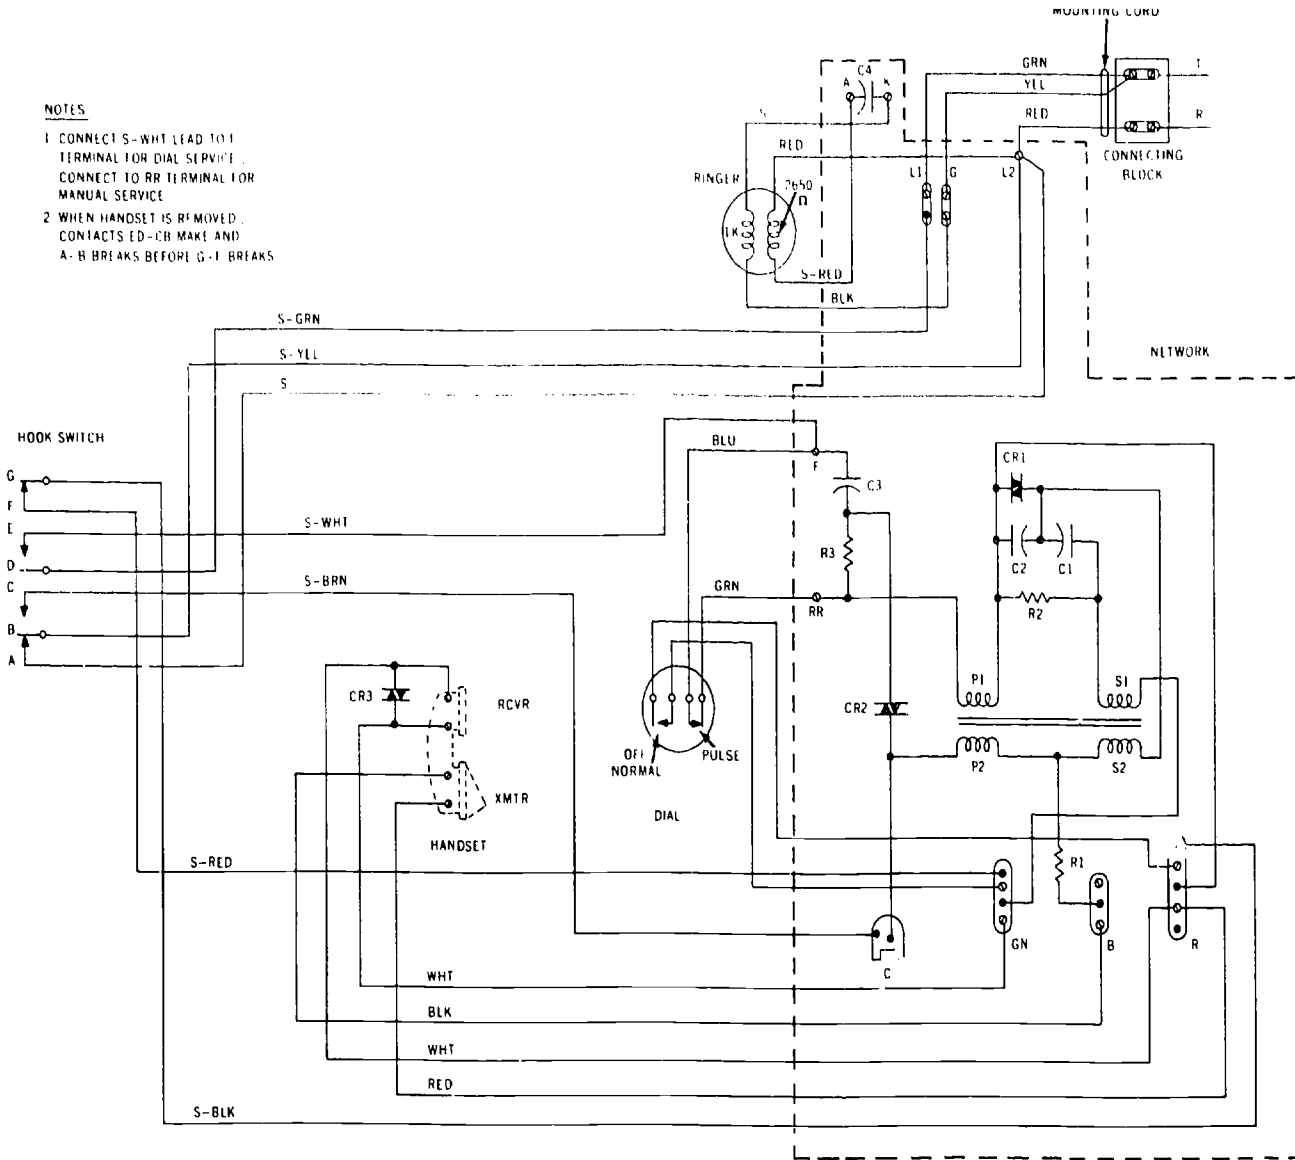
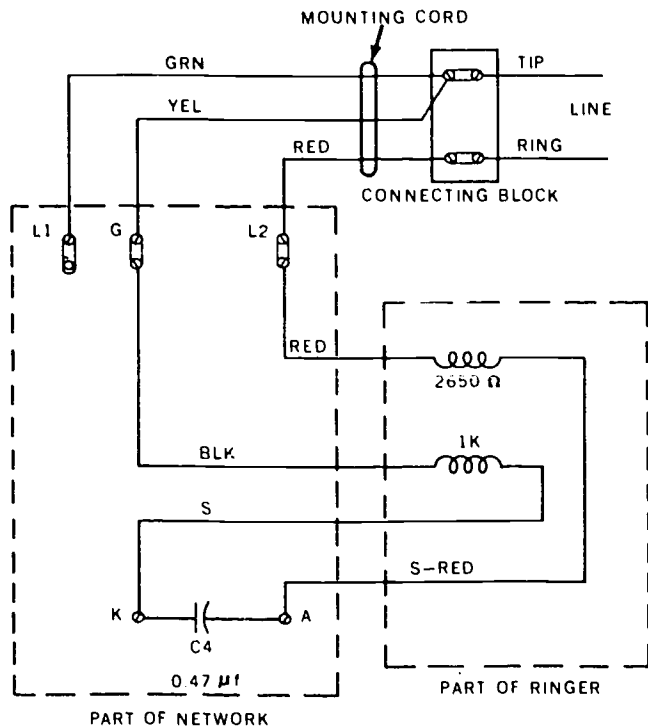

Figure 2-15. Schematic-wiring diagram for 500-type telephone.
Figure 2-16. Ringer circuit schematic diagram.
The circuitry of the 500 telephone includes the ringer, transmitter, receiver, dial, and antisidetone circuits. These five circuits are all included in the wiring diagram illustrated in figure 2-15, which is actually a complete schematic wiring diagram for the 500 telephone. Before we discuss the five circuits, let's mention some general points about the wiring diagram. First, the network parts and terminals are all shown inside a dotted line on the diagram. The terminals, with their identifying letters and numerals, are shown in the same relative positions as they appear on the network itself. The internal parts of the network have been identified with letters and numerals in the illustration. For example, the primary windings of the induction coil are identified as P1 and P2; the secondary windings are S1 and S2. The resistors are identified as R1, R2, and R3; the capacitors as C1, C2, C3, and C4; and the varistors as CR1 and CR2. We point this out because many diagrams don't identify the network parts, since they are not replaceable as individual parts. When it is necessary to identify the network parts, the identifying symbols shown in figure 2-15 are normally used.
Now observe the conductors at the upper right of figure 2-15 identified as T and R. The T and R stand for tip and ring. Tip and ring, as you may recall from the resident course, refer to the lines from the central office, the names coming from the parts of the jack and plug used on the manual common-battery switchboard. The ring side of the line is always connected to negative battery at the central office, and the tip side is connected to positive battery and ground. Thus, in respect to the battery current, the ring side of the line is negative and the tip side of the line is positive. The tip side of the line is connected to ground at the central office except during the ringing period in certain types of ringing systems. (This feature will be further explained along with ringing systems in a later volume.)
4. In figure 2-16, what component attached to network terminals A and K passes the ringing current but blocks DC?
Before the transmitting, receiving, or dialing circuits can operate, the handset must be removed from its cradle. If the handset were removed from its cradle on the set illustrated in figure 2-15, hookswitch contacts A-B and F-C would break (open) and contacts B-C and D-E would make (close). Breaking contacts F-G would remove the short from across the receiver, and making contacts B-C and D-E would connect the tip and ring conductors through to the telephone circuitry. Current would flow from the central office to the telephone transmitter via the tip and ring conductors. Let's trace the path of this current through the telephone
on the left, and to use red wire for the ring side of the line and green wire for the tip inside a house. This gave rise to an expression frequently used by telephone workers, "RED-RING-RIGHT." The RED wire is the RING conductor and it is connected on the RIGHT. In addition, the RED wire is connected to battery and it is negative in respect to the tip or ground. With this preliminary, general discussion, we've finally got the wiring leading up to the telephone connecting block. Now we're ready to consider the individual 500 telephone circuits, starting with the ringer circuit. Since reading circuit diagrams is so important in telephone repair, try first to answer the following exercises from figure 2-15 alone.
As you study the circuits in figures 2-15 and 16, assume that the conductors are extended from the central office to the telephone connecting block. With the conductors so connected, the central office can extend either battery or ringing current to the telephone. In both figures, the telephone mounting cord extends from terminals of the network to the connecting block. The green (GRN) conductor goes from the tip terminal at the connecting block to the L1 terminal on the network; the yellow (YEL) conductor from the tip terminal to the G terminal on the
The four ringer leads, as you can also see in both figures, are connected to terminals A, K, G, and L2 on the network. By being so connected, the ringer circuit is always completed to the tip and ring leads. For the central office to apply ringing current only to the ringer, however, the handset must be on its cradle to disconnect the tip and ring leads from the transmitting and receiving circuits. If you will take a close look at the hookswitch contacts in figure 2-15, you can see that contacts B-C and D-E are open. Therefore, the handset is on its cradle and the tip and ring leads are disconnected from the receiving and transmitting circuit. With the hookswitch contacts in this position, the only circuit that is completed to the central office is the ringing circuit. To make this circuit easy to trace, it is shown individually in figure 2-16. As we trace the ringing current through this circuitry, see if you can follow the circuit in both illustrations.
During a telephone conversation the voice currents from the distant telephone are applied to terminals RR and C on the network (fig. 2-15). These currents pass through windings P1 and P2 in a manner similar to that described for the transmitter circuit. As these varying voice currents pass through windings P1 and P2, they induce an ac voltage in winding S1. This induced voltage causes current to flow to the receiver in the handset.
1. In figure 2-15, what network terminals complete the receiver circuit?
The voice currents that enter this subset from the telephone line are applied to terminals RR and C of the network (see figs. 2-15 and 2-17). As these currents pass from terminal C to terminal RR, they pass through winding P2, resistor R1, the transmitter, and winding P1. In addition to this, part of the current that passes through winding P2 flows through winding S2, varistor CR1, and winding P1 to arrive at terminal RR. From this, it is easy to see that the received voice current passes through windings P1, P2, and S2. The voice current that passes through all three of these windings induces an additive voltage in winding S1. Therefore, during receiving, a strong voice current is applied to the receiver unit by winding S1.